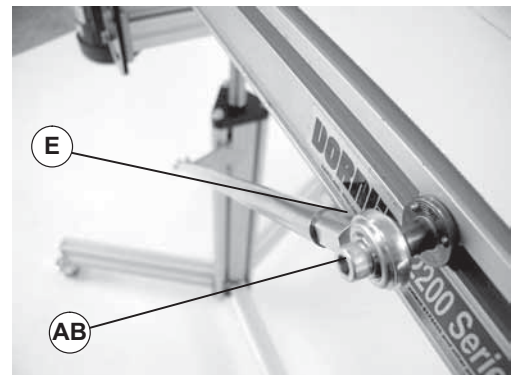

Figure 25
2. If conveyor is equipped with diagonal bracing (Figure 25, item E), socket screw (AB) must be loosened to adjust conveyor angle.